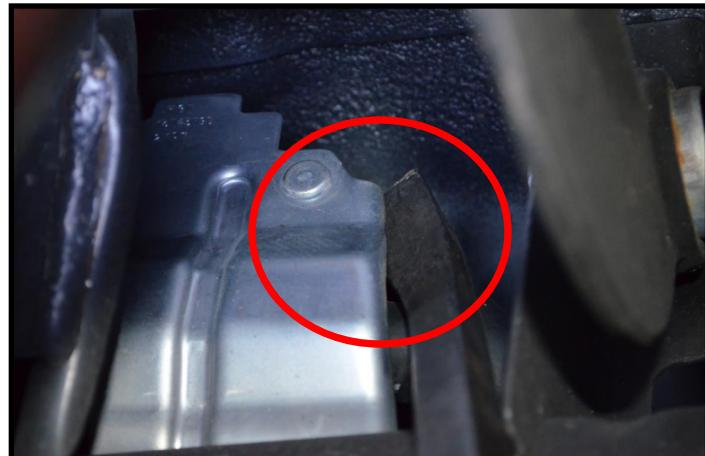

Figure 2g
- f) Some models will have a bracket that will prevent the removal of the upper passenger side bolt. This bracket can be bent with a small pry bar. Make sure not to crush the lines or electrical connections behind the bracket. Where to pry is shown in Figure 2g.
- d) Replace bolts that were removed in step 1d. Tighten them to 57-75ft.lbs (shown in **Figure 2f** and **Figure 2g**).